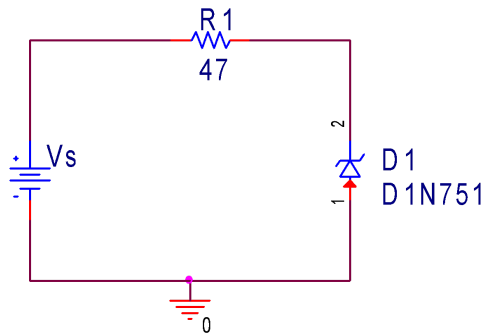

Figure 9: Zener diode circuit for PSpice
1. In Spice, build the circuit below (Figure 9). Use a DC voltage source for V_s and the D1N751 Zener diode in the DIODE library (refer to the introduction if you have not added the DIODE library). Sweep the source voltage from -1 V to 6.5 V and plot (versus source voltage) the current into the cathode of the diode. To sweep the voltage, select DC Sweep as your simulation type, pick the source by the name, and set the lower limit and upper limit. You should set the increment size so that your curve appears fairly smooth. Also, note that we are investigating the avalanche breakdown characteristics of the Zener diode when it is reverse biased.